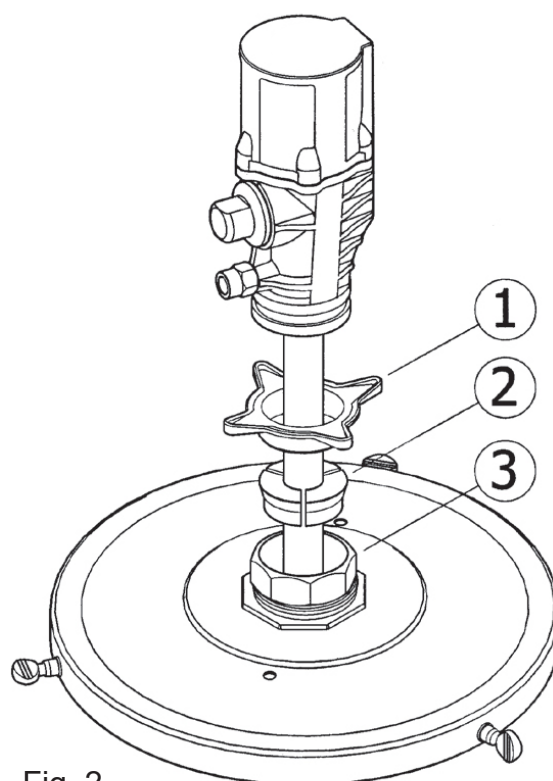

Fig. 2
These pumps must be mounted on drums using covers fitted with a 2" bung. Loosen the star nut (1) of the bung adapter to remove the inferior nut (3), and screw this into the 2" bung opening of the cover. Place the star nut (1) and the three jaws (2) on the suction tube. Insert the pump through the opening and fasten the assembly at the desired height (fig 2). Fasten the cover to the drum.